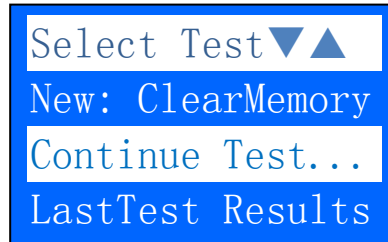

Figure 41
2. Connect the analyser to the battery terminals and the display will light up as shown (Fig 41).